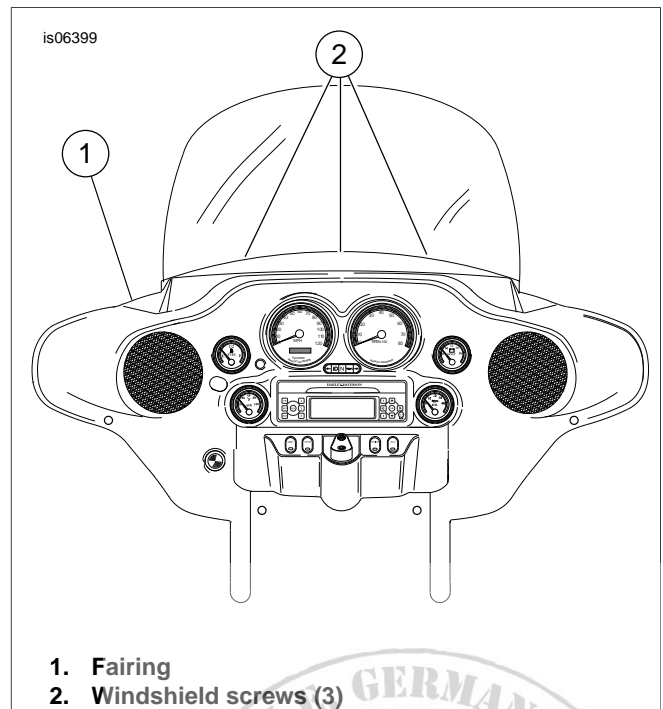

Figure 1. Windshield Installation
1. See Figure 1. Loosen but do not remove three screws (2) (with flat washers) securing the windshield to the fairing (1).
1. See Figure 1. Place the windshield into position between the inner and outer fairings (1) engaging the slotted holes in the windshield with the threaded bosses on the inner fairing.
2. Tighten three screws (2) to 25-30 **in-lbs** (2.8-3.4 Nm).